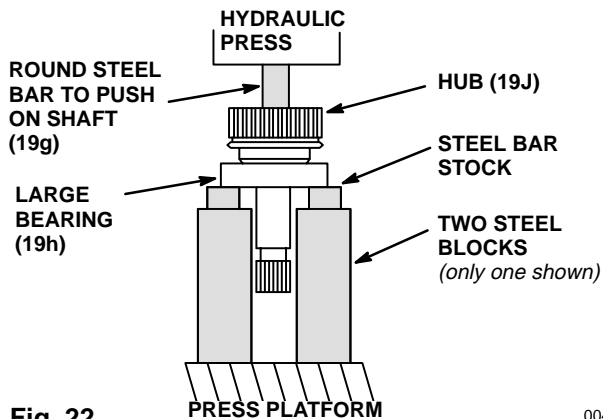

Fig. 22
4. **Using a hydraulic press**, place pieces of steel bar stock on the inner race of the large bearing (19h) and press the shaft through the hub and bearing. Then turn over the shaft and press out the small bearing (19f). See Fig. 22.